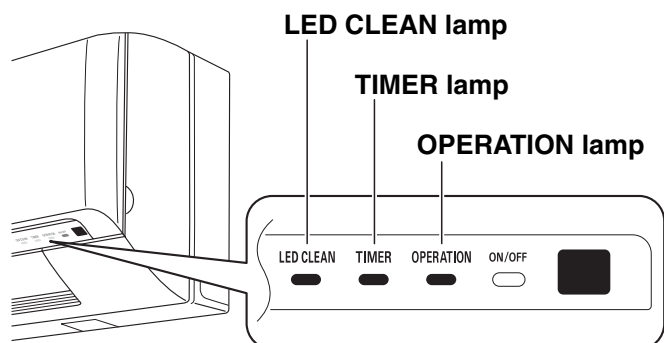

Fig. 8c
- This starts the fan producing uncooled forced air with the 3 indicator lamps (OPERATION lamp, TIMER lamp and LED CLEAN lamp) on the main unit blinking. (Fig. 8c)